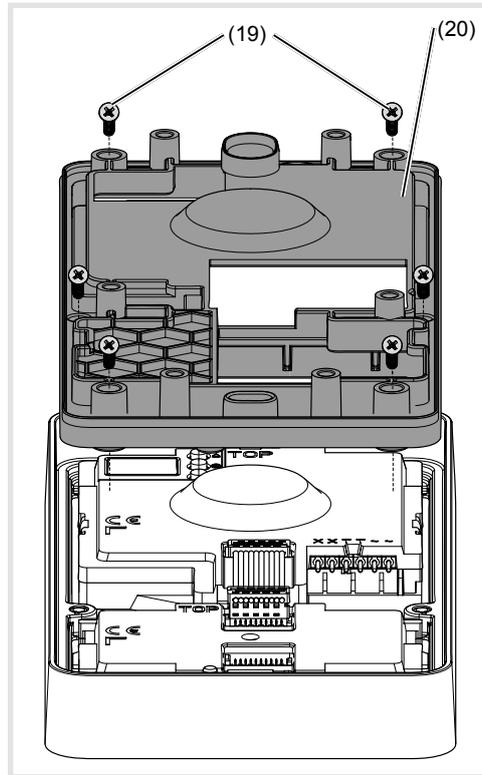

Figure 20: Module base dismantling
- Remove the connection terminal block (13) from the video insert.
- Loosen the screws (18) on the rear base of the modules (19) using a screwdriver and remove the base (figure 20).